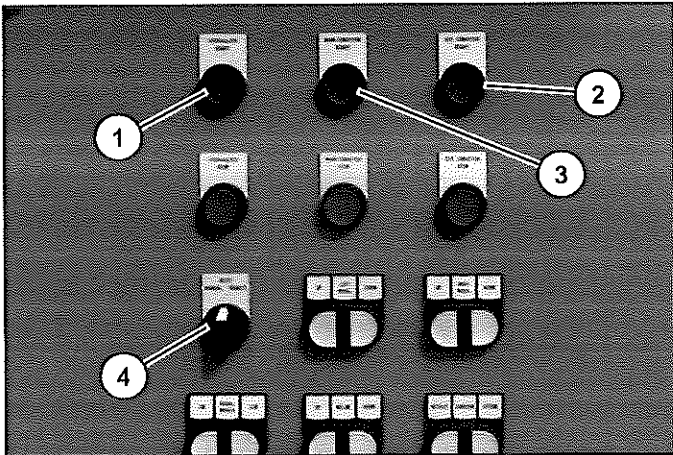

Figure 76
2. On the electrical panel, push the hydraulic pump start button (Item 1) (Figure 76) to start the hydraulic system.
3. Push the extension (stinger) conveyor start button (Item 3) (Figure 76) to start the extension conveyor belt.
4. Push the main conveyor start button (Item 2) (Figure 76) to start the main conveyor belt.
5. Turn the switch to the auto position (Item 4) (Figure 76).